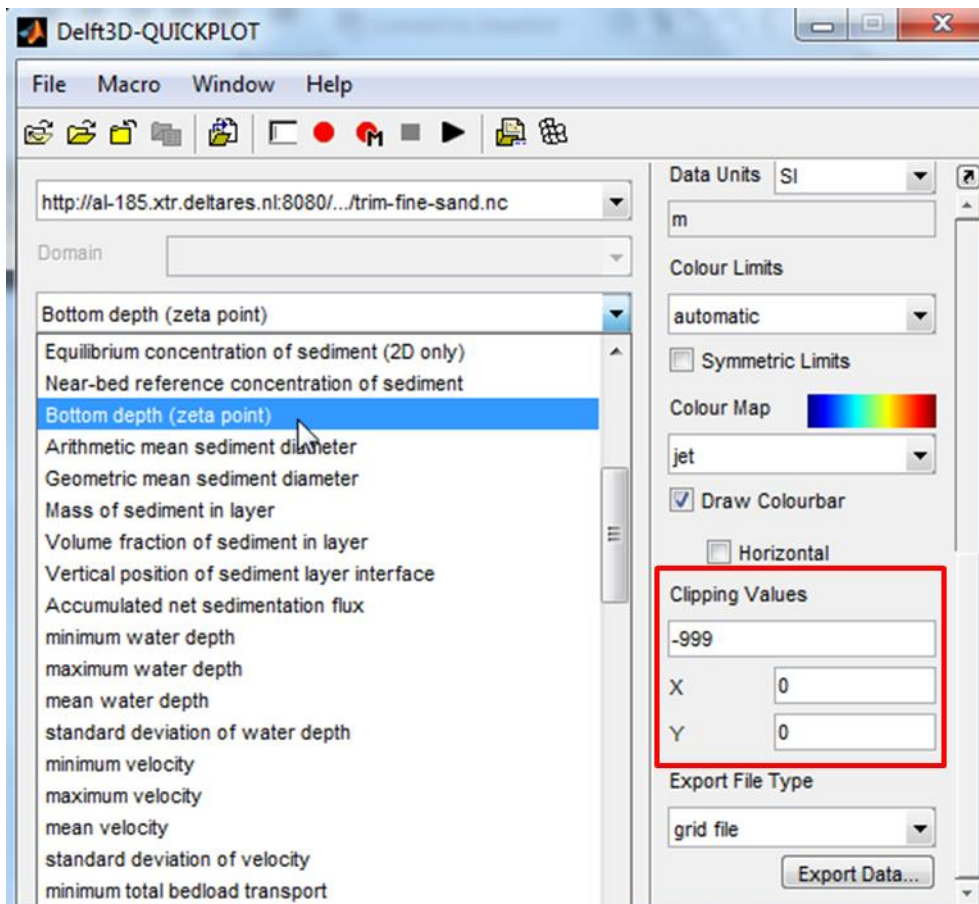

Figure 3.34 Select variable for plotting ("Bottom depth") and set clipping values for X=0 and Y=0.
3. Select the variable for plotting from the dropdown menu and set the clipping values for X=0 and Y=0 (Figure 3.34)